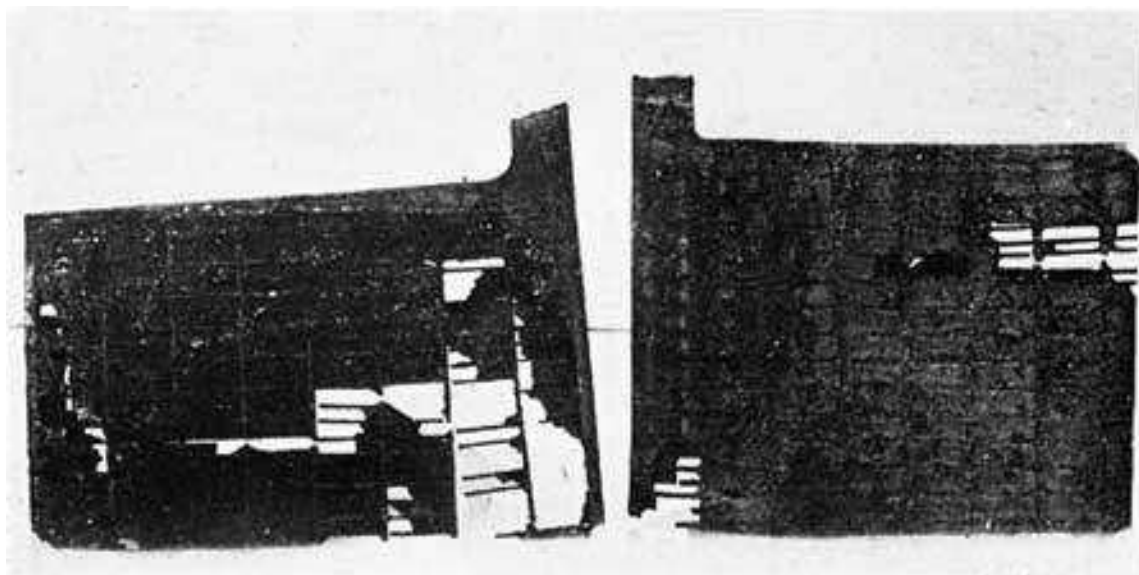

Fig. 206. Weak and Cracked Positives
**2. If the battery is more than two years old,** and the active material on the negative plates is granulated (grainy appearance), Figs. 204 and 205, and somewhat disintegrated; if the plates are weak and brittle around the edges, and several grids are cracked, Fig. 206, and the plates have lost a considerable amount of active material; and if the case has been rotted by the acid, the battery should be junked.